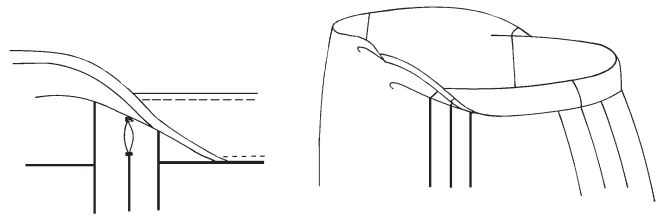

Fig. 12-13
4. Fold the top edge of the garment over 1 inch (2.5 cm) to the inside, forming a casing. Press along the fold line. Stitch close to the lower edge of the casing. Backstitch at the beginning and end of the stitching. (Fig. 12-13)